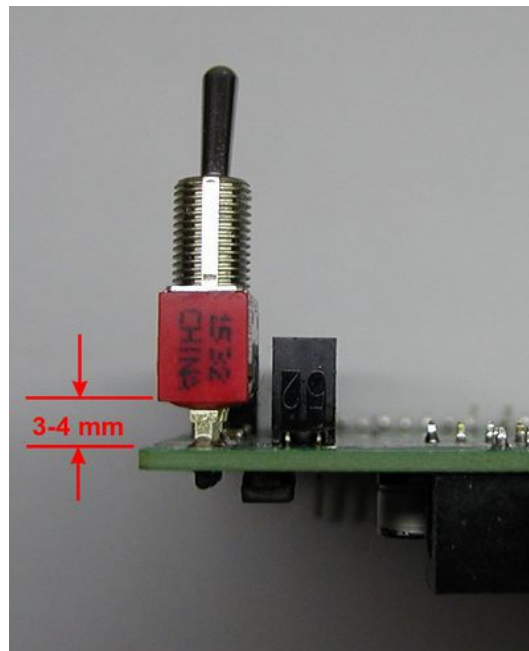

Fig. 6: Power switch mounting
- Finally, we can mount the power switch (see Fig. 6). Once again, we recommended it be aligned with the corresponding hole on the enclosure's front panel first, then adjust its position as needed before soldering.